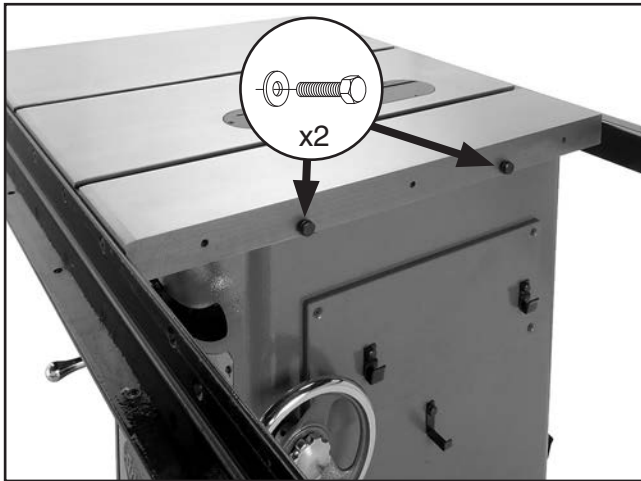

Figure 28. Hex bolts installed.
1. Thread (2) M10-1.5 x 25 hex bolts with 10mm flat washers onto the right side of the main table, as shown in **Figure 28**. Do not fully tighten the bolts.